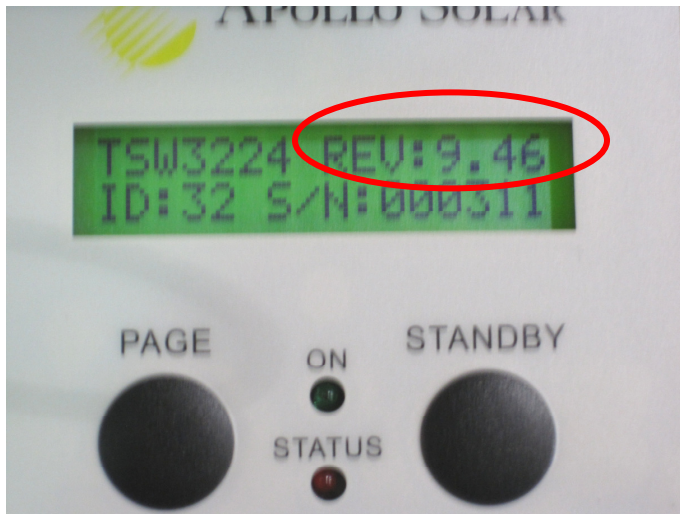

Figure 10
**Important:** The upgrade is not complete until the TSW resets (this takes about another minute. **Do not disturb the TSW until the display changes from Figure 8 to figure 10.**
The TSW is now running with the new version of firmware which you installed as shown in Figure 10 above. There are no more steps. The cable to the computer running the AIM firmware may be disconnected.